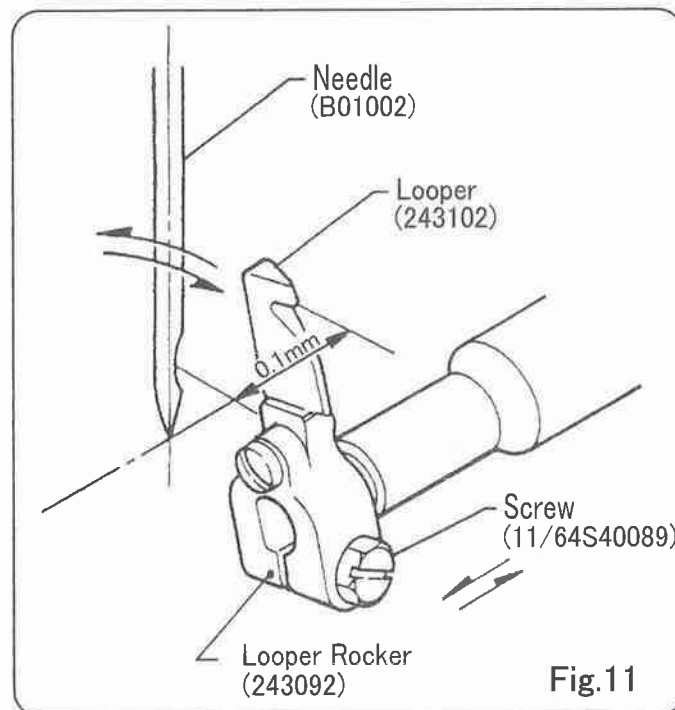

Fig.11
2. Position of Needle and Loper (Fig.11)
Looper must pass the concave part of Needle with clearance of 0.1 mm as shown in Fig.11. Adjustment of the clearance can be done after loosening the screw of Loper Rocker.